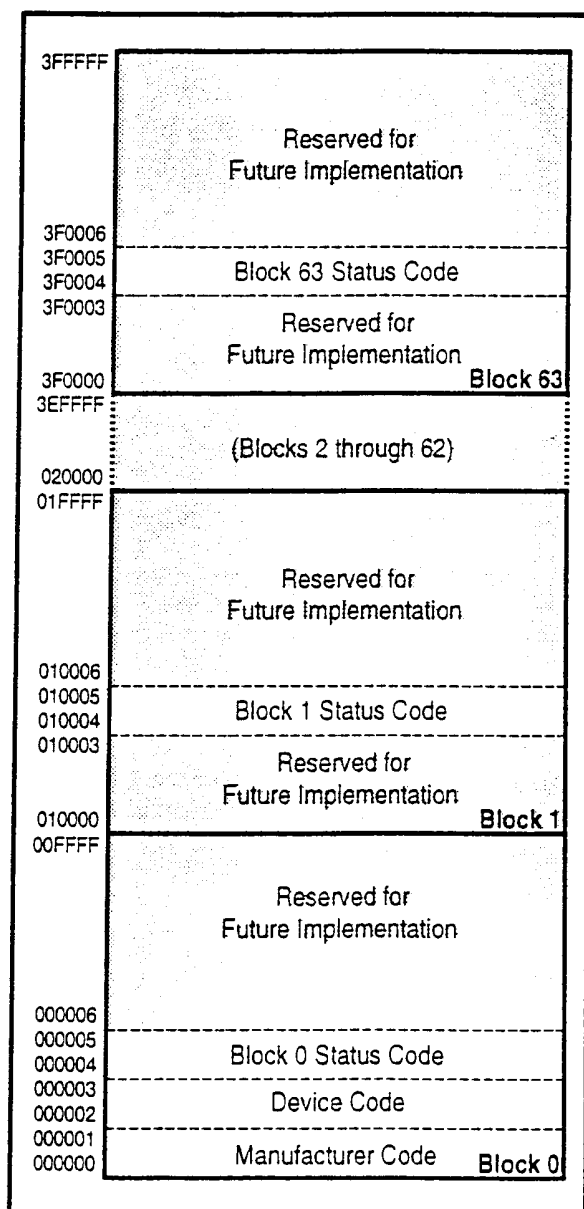

Figure 5. Device Identifier Code Memory Map
The read identifier codes operation outputs the manufacturer code, device code, block status codes for each block (see Figure 5). Using the manufacturer and device codes, the system CPU can automatically match the device with its proper algorithms. The block status codes identify locked or unlocked block setting and erase completed or erase uncompleted condition.
IA=Identifier Code Address: see Figure 5.
The identifier code operation is initiated by writing the Read Identifier Codes command. Following the command write, read cycles from addresses shown in Figure 5 retrieve the manufacturer, device, block lock configuration and block erase status (see Table 5 for identifier code values). To terminate the operation, write another valid command. Like the Read Array command, the Read Identifier Codes command functions independently of the  $V_{PP}$  voltage and  $RP\#$  must be  $V_{IH}$ . Following the Read Identifier Codes command, the following information can be read:
1. X selects the specific block status code to be read. See Figure 5 for the device identifier code memory map.